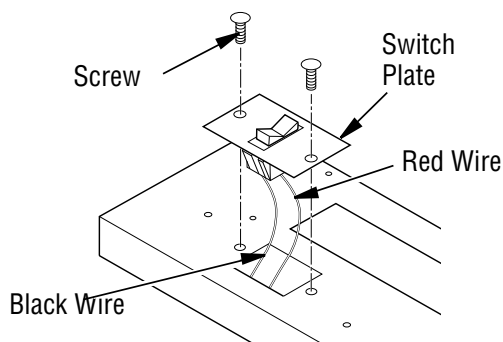

Figure 28 - Switch Plate and Wiring Harness
3. Remove switch plate (see *Figure 28*). Discard switch plate after removing. Save the screws.